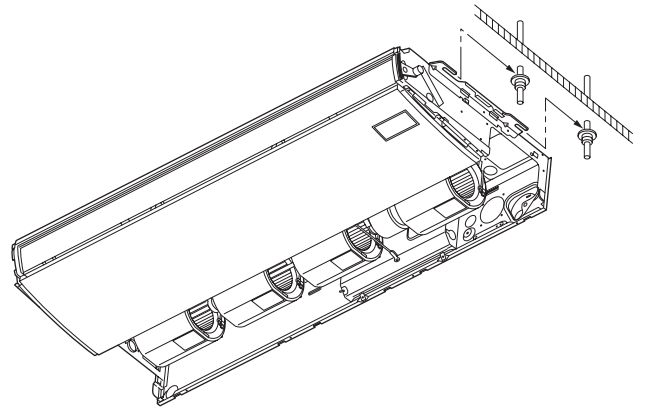

Fig. 3-74
- b) Lift the indoor unit, and place it on the washers through the notches, in order to fix it in place. (Fig. 3-74)